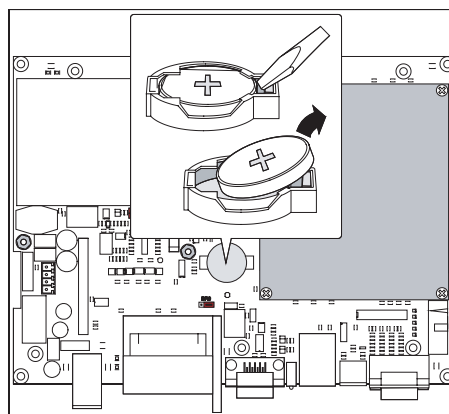

Fig. 7-3: Exchanging the back-up battery
- 4 Insert the new battery in the socket, such that the "+" mark is at the top, see Fig. 7-3.